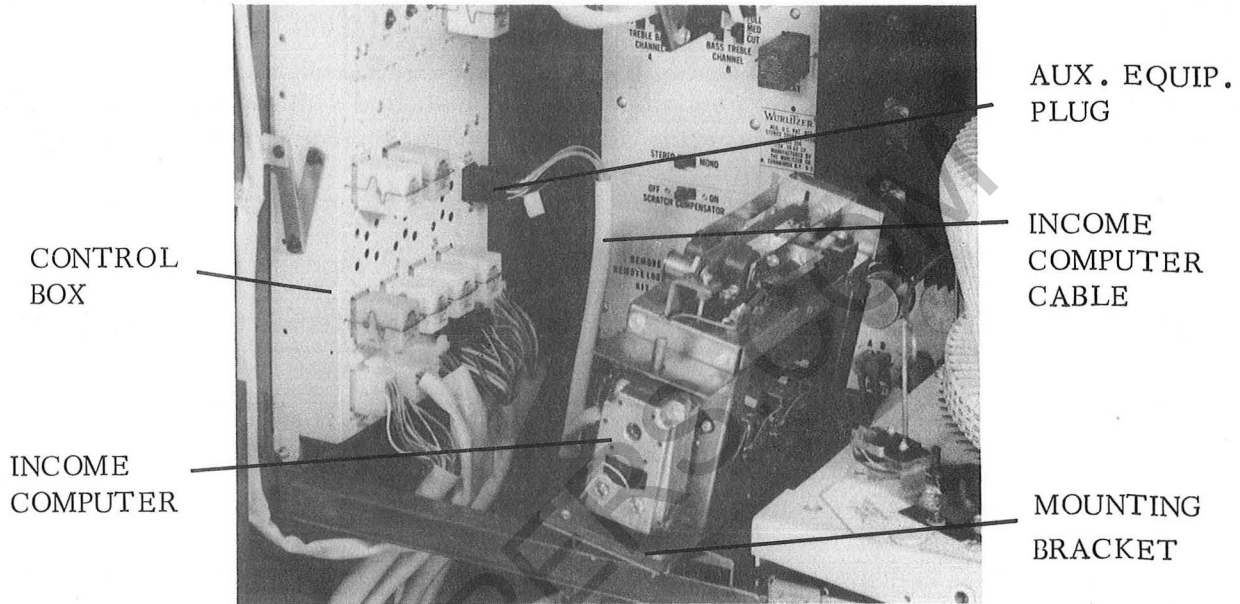

Figure 2.
7. Install INCOME COMPUTER on MOUNTING BRACKET and secure with four Screws, Part No. 74976-36, as shown in Figure 2.
8. Connect INCOME COMPUTER CABLE, with red receptacle, to AUX. EQUIP. PLUG, located on CONTROL BOX, as shown in Figure 2.